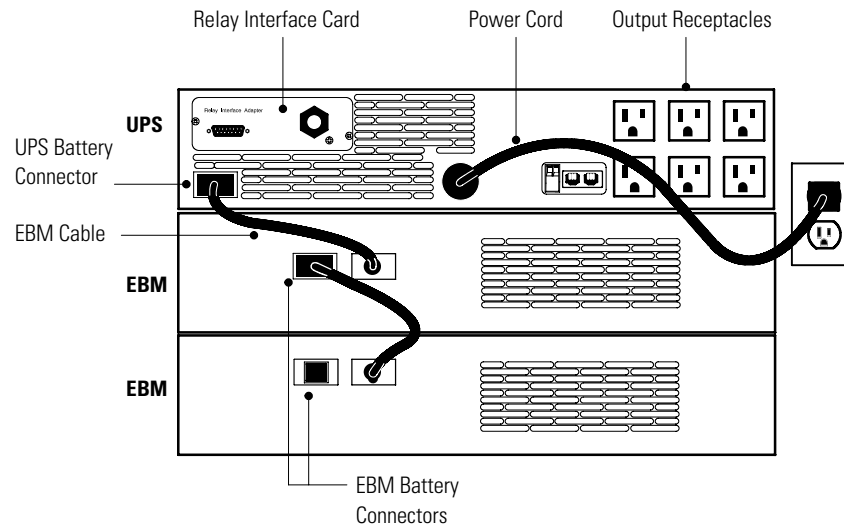

Figure 10. Typical Installation (120V UPS Model Shown)
Figure 10 shows a typical installation only. See “UPS Rear Panels” on page 10 for the rear panel of each model.
2. Plug the EBM cable of the first EBM into the UPS battery connector (see Figure 10).